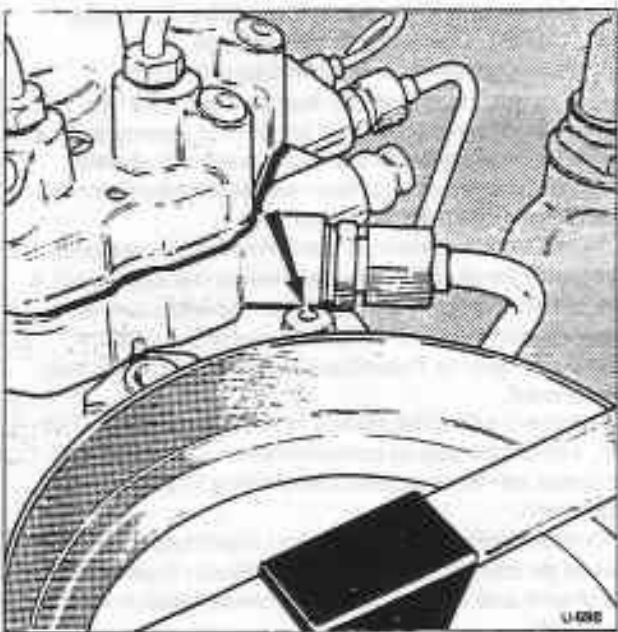

Fig. B2-26 Height adjustment for the air flow sensor plate
8. If the air sensor plate is positioned too high, remove the fuel distributor and carefully tap the guide pin lower using a mandrel and a small hammer (see fig. B2-26).